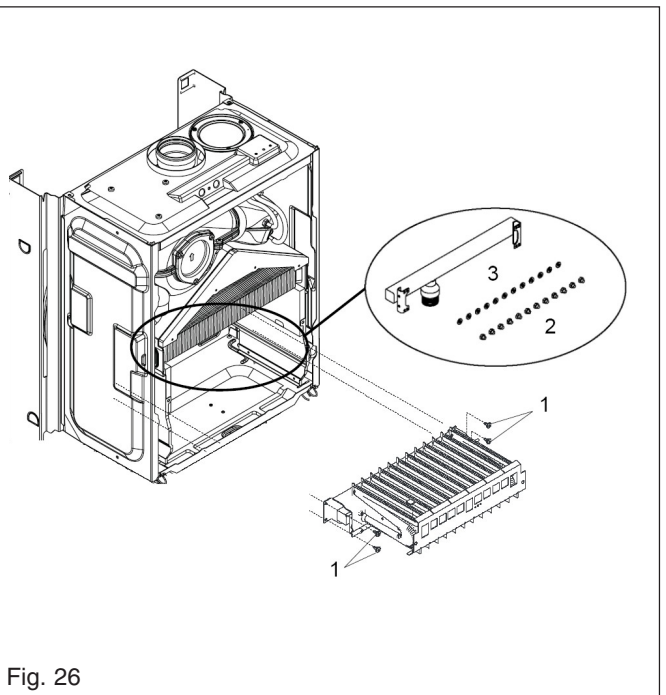

Fig. 26
FIG. 26: locate and remove the four screws which secure the burner in position (1), gently ease the burner out of its location. Once the burner has been removed, the electrode retaining screw can be removed. Locate the burner injectors (2) and remove (if necessary). Replace in the reverse order. **Please note**, the injector sealing washers (3) must be replaced if the injectors have been removed, ensure all seals are in good condition, taking care to ensure they are replaced correctly. Replace in the reverse order.